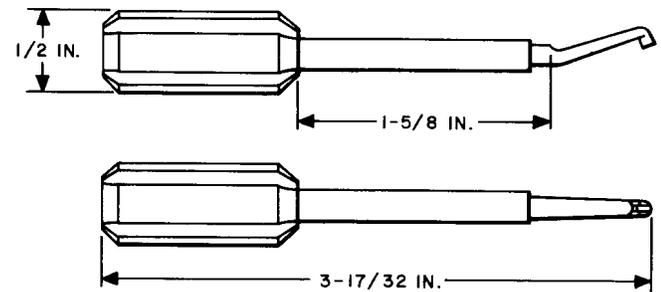

Fig. 9—535A or B Adjuster Tool
2.09 535A and B: The 535A and B tools (Fig. 9) are spring adjusters.